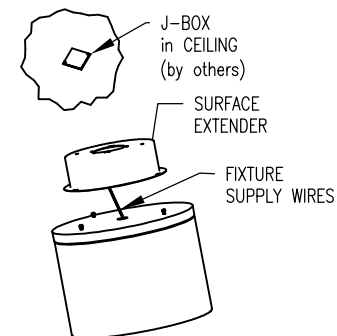

FIG. 2
2. REMOVE SURFACE EXTENDER FROM FIXTURE. (SEE FIG. 2) ATTACH SURFACE EXTENDER TO J-BOX IN CEILING PROVIDED BY OTHERS.